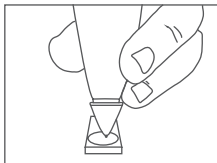

Fig. 1.13
6. To begin calibrating, carefully press the Probe Tip onto the Calibration Disk perpendicularly as shown in **Fig. 1.13**. Ensure that the Probe Tip remains fully depressed during this process, to achieve consistent pressure on the tip.